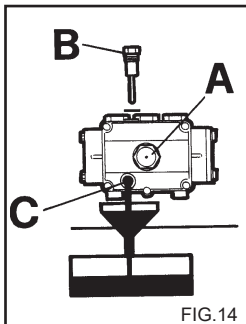

FIG.14
- 2) Unscrew the cap with the dipstick (fig. 14).